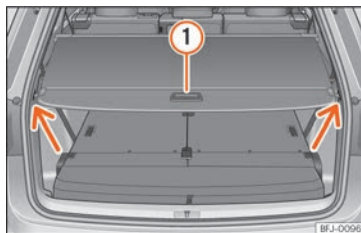

Fig. 115 In the luggage compartment: luggage compartment shelf closed.
- Pull the cover backwards with the handle » » Fig. 115 ① and remove it above the anchor